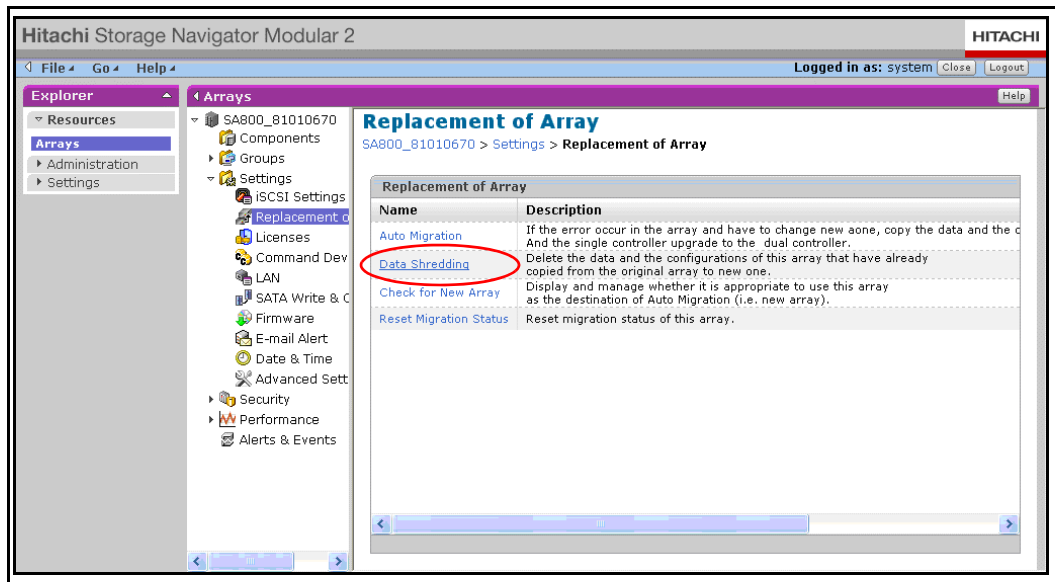

Figure 34: Replacement of Array Window with Data Shredding Highlighted
- F. In the Replacement of Array window, click **Data Shredding** (shown in the Figure 34 on page 28).